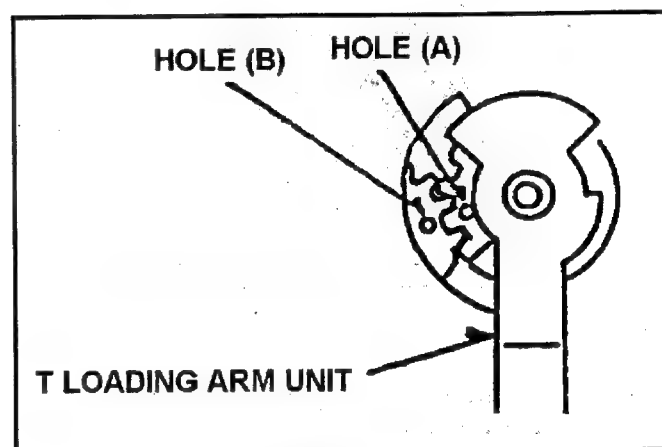

Fig. 8-12-1 Phase Adjustment of T1 Loading Arm Unit
1. When installing the T1 Boat Unit, the hole (A) should match hole (B) as shown in Figure 8-12-1.
3. Post Height Pre-adjustment (Refer to item 1-5 of section 3) and Linearity Adjustment (Refer to item 1-13 of section 3 [Tape Path Adjustment Procedure]) should be performed.